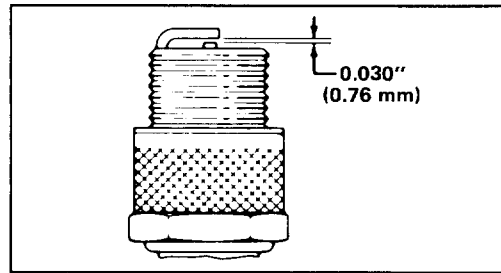

Figure 17
3. INSTALL SPARK PLUG—Set air gap (Fig. 17) between electrodes at .030" (.76 mm). Install plug and tighten to 15 ft-lb (20.4 N-m). If torque wrench is not used, tighten plug firmly with fingers. Push wire onto spark plug and reinstall control panel.